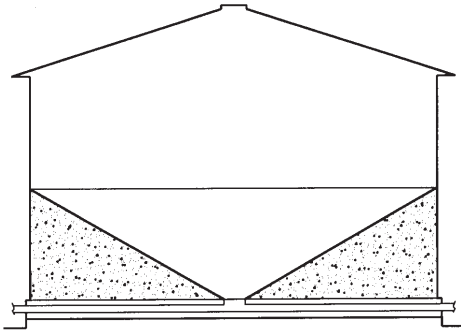

FIG. 6
3. When the natural gravity-flow of grain to the center well stops, the grain remaining should appear as in Figure 6.